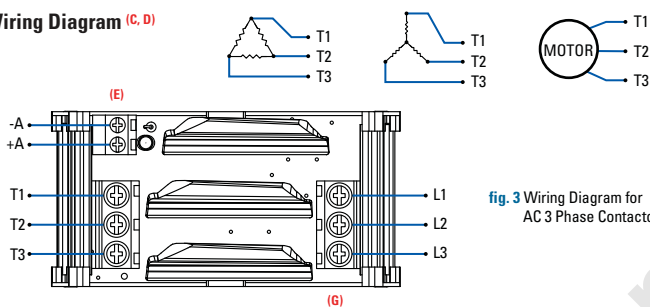

fig. 3 Wiring Diagram for AC 3 Phase Contactor.
- Wire the contactor to the input control side following the corresponding wiring diagram (fig. 3 or fig. 4). 24 AWG minimum, 12 AWG maximum (IEC 0.5-2.5 mm²). Maximum recommended terminal screw torque input 4.3 lbs in (0.5 Nm).